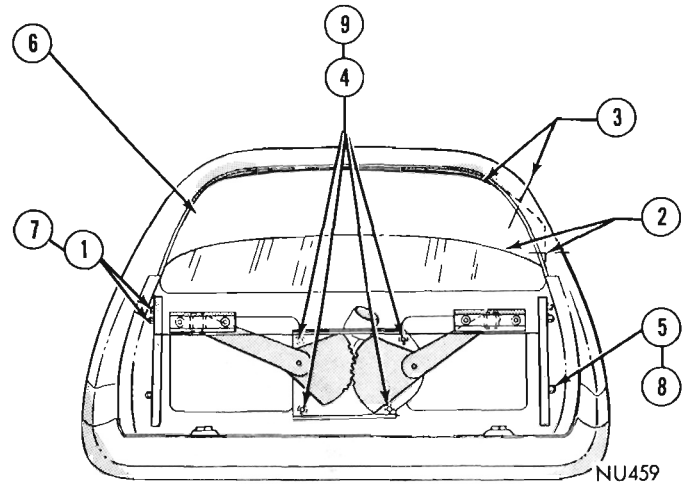

Fig. 48 - Tailgate Glass Adjustments
The circled numbers shown on the glass adjustment reference illustration (Fig. 48) indicate the particular step number being read in the adjustment procedure.
(1) Support glass at bottom and remove glass to lift bracket screws (Fig. 48).
(2) Slide glass up and out of door.
(3) Remove lift channel fasteners from glass.
To replace the glass lift channels (Fig. 48) it is necessary to first remove the glass assembly. The channels are positioned over sliding blocks on the regulator arms.